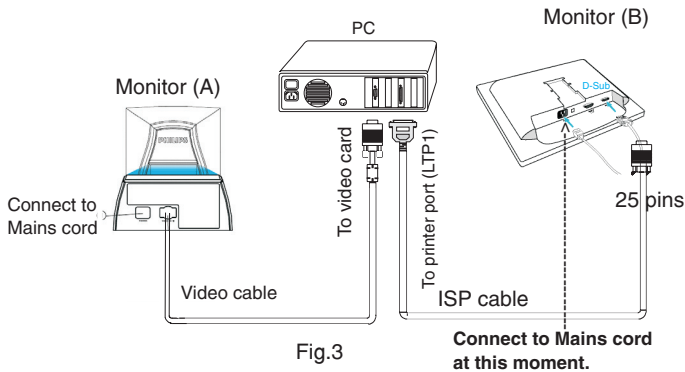

Fig.3
- Step 4 : Connect ISP cable and Mains cord to Monitor as shown in Fig. 3.